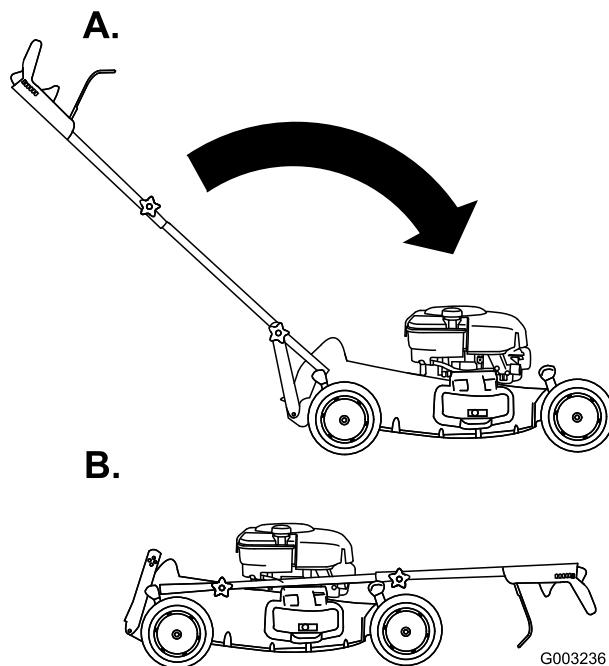

Figure 42
3. Rotate the handle forward (Figure 42).